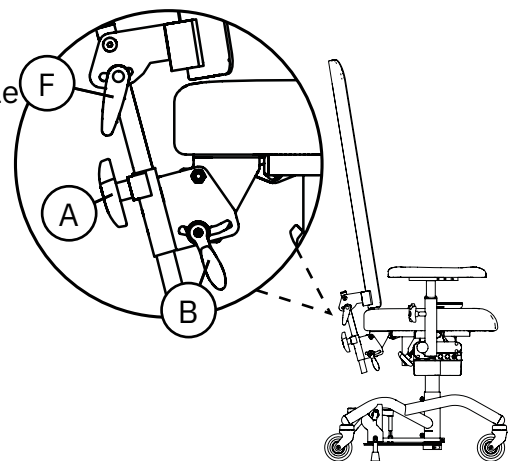

Figure 5.10. High Transparent Back Support.
The Standard X-ray backrest mechanism's backrest is adjustable in terms of height (A) and the angle of the backrest mechanism is adjustable (B). The backrest angle is also adjustable (F) (see Figure 5.10).